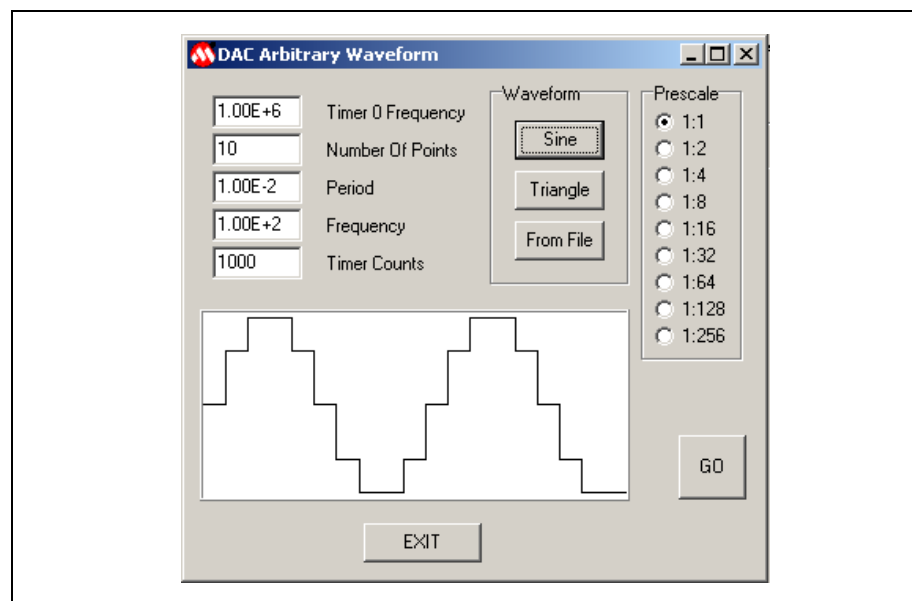

Figure 3.8: Sine Waveform Selected
12. Set the Prescale ratio to 1:4. This will bring the Timer Count down to 250, as shown in Figure 3.8.